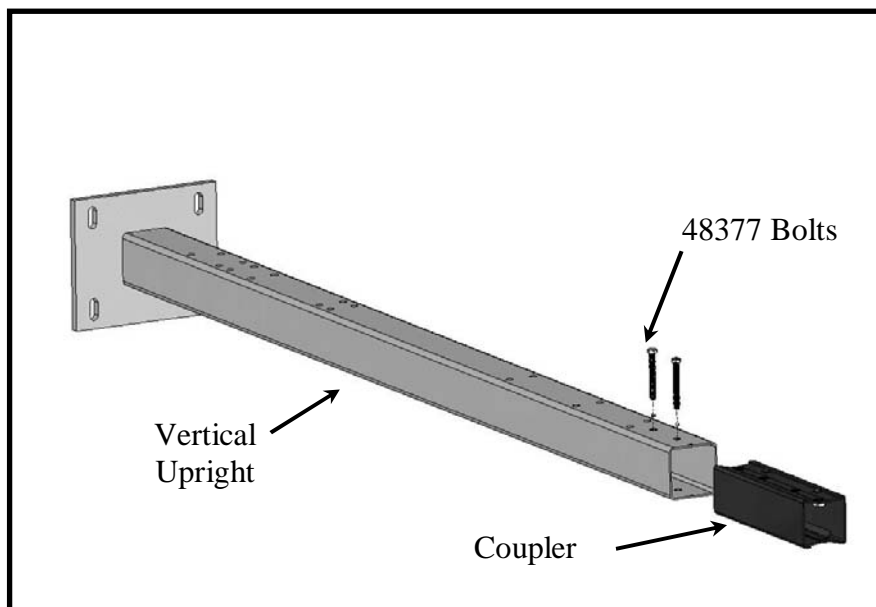

Figure 40 – Install Coupler into Vertical Upright
- b) Lay vertical upright on ground taking care not to scratch finish. Insert coupler in upper end of vertical upright, using (2) 48377 bolts to hold in place but do not tighten. *See Figure 40.*